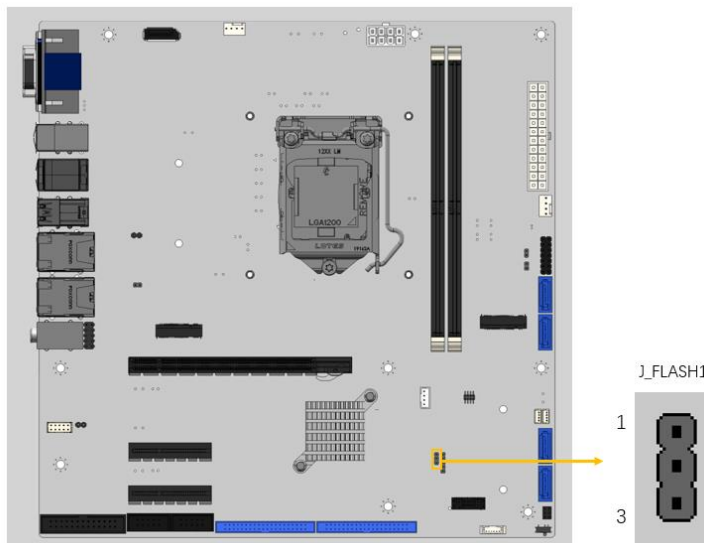

Figure 3-6: Flash Descriptor Override Setting Jumper Location
- CN Location:** See **Figure 3-6**